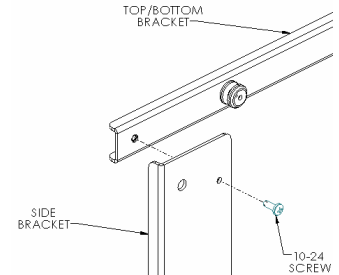
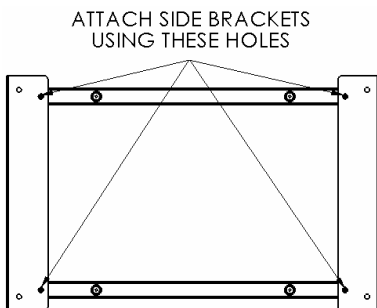

Figure 4
Figure 5
2. Using four 10-24 phillips head cap screws, attach top and bottom to side brackets (see Figure 4 & Figure 5).